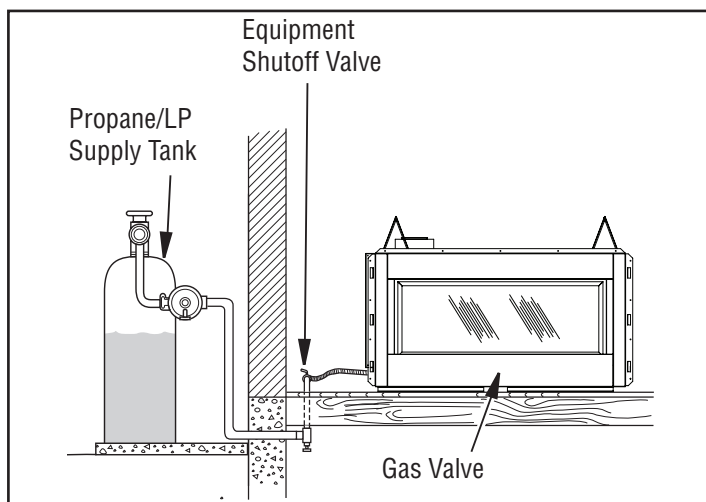
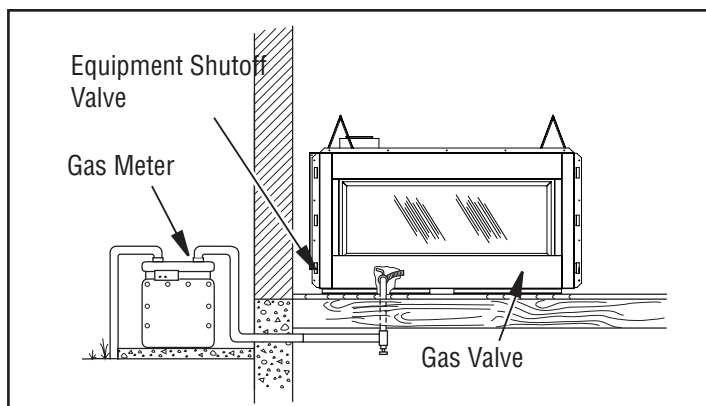

Figure 31 - Checking Gas Joints for Propane/LP Gas Fireplace
Figure 32 - Checking Gas Joints for Natural Gas Fireplace
3. Check all joints from propane/LP supply tank or gas meter to equipment shutoff valve (see Figure 31 or Figure 32). Apply noncorrosive leak detection fluid to all joints. Bubbles forming show a leak.
4. Check all joints from equipment shutoff valve to gas valve (see Figure 31 or Figure 32). Apply noncorrosive leak detection fluid to all joints. Bubbles forming show a leak. Correct all leaks at once.